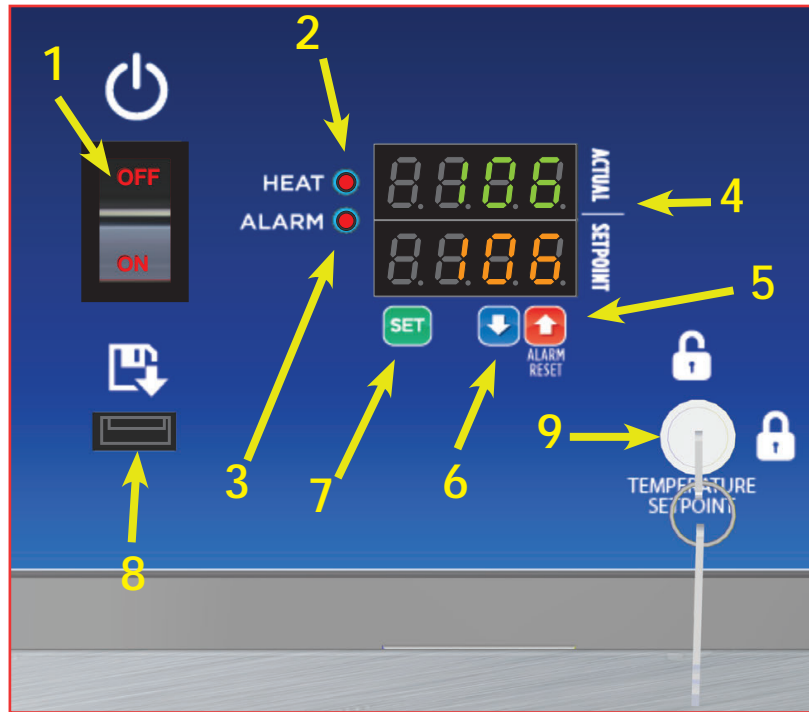

Fig. 15: Controller Display
The Controls are located on the upper panel (Fig. 15) on the front of the cabinet. For multi-chamber cabinets, there are sets of controls for each individual chamber. Each control set is clearly labeled UPPER CHAMBER and LOWER CHAMBER for dual chamber cabinets and UPPER CHAMBER, MIDDLE CHAMBER and LOWER CHAMBER for triple chamber cabinets.
4. To prevent adjustment to the set point temperature, the control may be locked with the Key Switch (Fig. 15, #9).